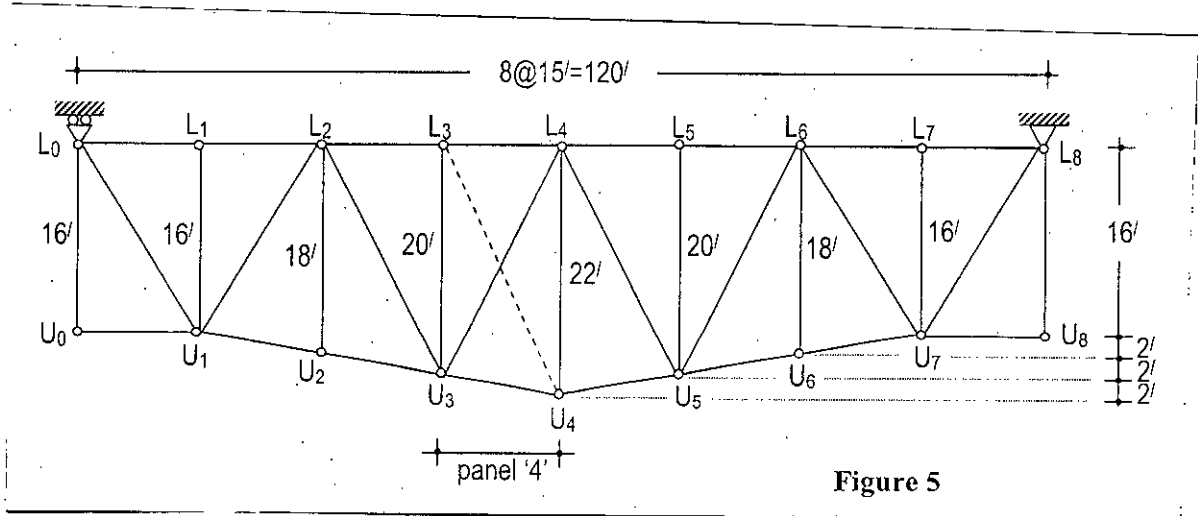

Figure 5
5. for the bridge truss as shown in Figure 5, check whether counter diagonal is needed or not for panel '4'. If needed, determine the force in counter diagonal 'L₃U₄'. What will be the force in main diagonal 'L₄U₃'? Given, truss self-weight = 0.75 kip/ft., vehicle load = 1.25 kip/ft. and moving concentrated load = 18 kip. Unit load moves over the top chord (from L₀ to L₈).
4. (a) The beam shown in Fig. 5 cantilevers from a supporting column at the left. Flexural reinforcement consists of two #11 bars at a 21 in effective depth. Transverse #3 stirrups with 1.5 in cover are provided at 4 inch spacing from the face of the column. Material strengths are $f'_c = 3$ ksi, $f_y = 60$ ksi. The beam uses normal weight concrete. (20)